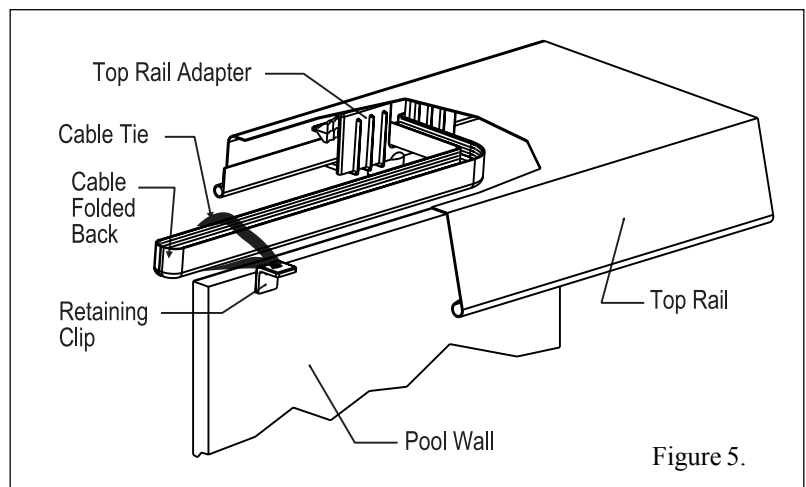

Figure 5.
3. Use cable retaining clips and cable ties to hide the extra cable underneath the top rail as shown in Figure 5. Fold the cable back in 2 to 3 foot sections and secure with clip/cable tie assemblies.